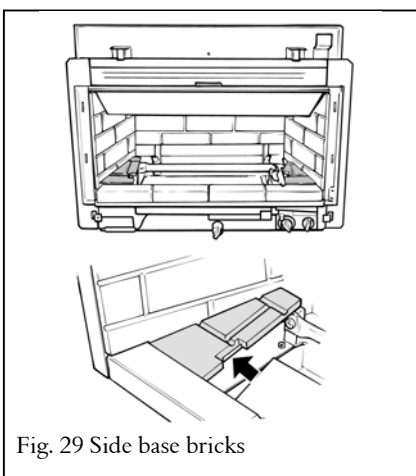

Fig. 29 Side base bricks
- 7.8.4 Install the side base bricks. These bricks are left and right handed. Place the side base bricks on the firebox side supports. The recess in the inside edge of each brick should locate behind the vertical metal edge of the each side support (fig. 29)